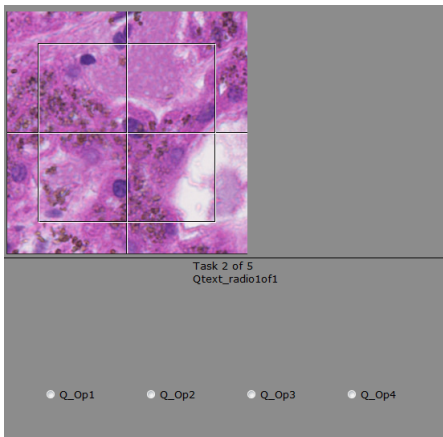

Figure 3
- **Description and purpose:** Select the one of the options that accommodates the description (*Figure 3*).